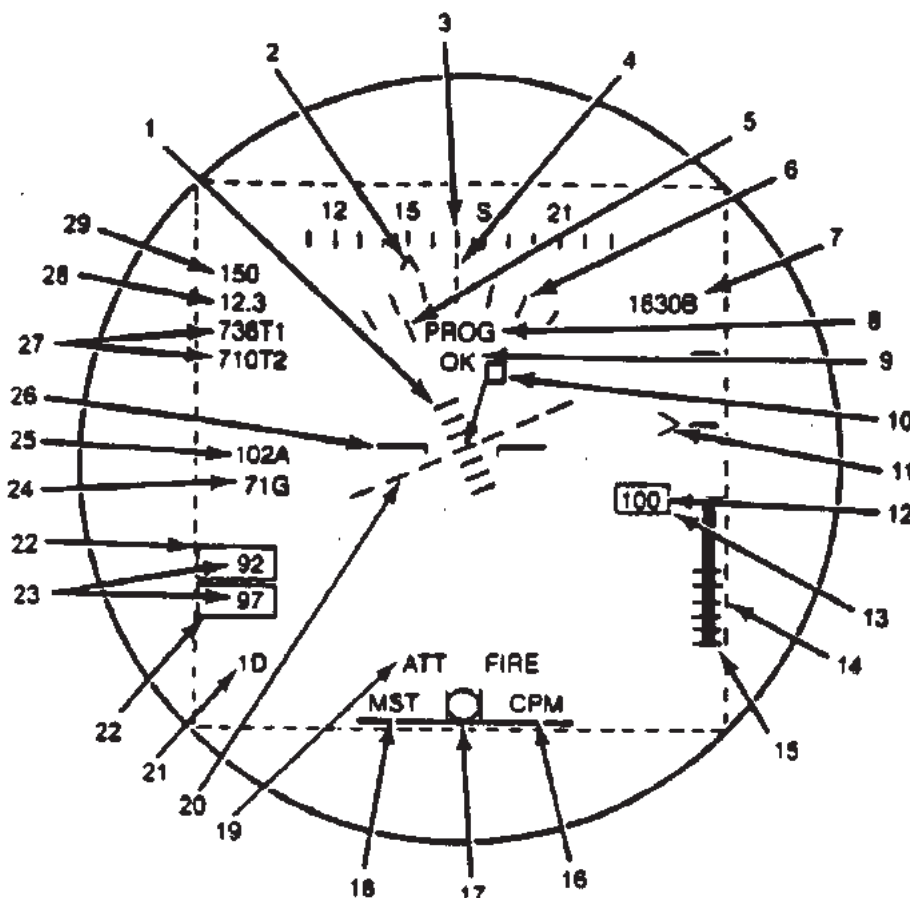

Figure 4-1-9. CH-47D HUD Master Mode Symbology Display (Sheet 1 of 3)
Symbology display modes are programmable by the pilot and copilot via the converter control unit located on the console. Modes are defined by selecting from a master symbology menu (fig. 4-1-9). Up to eight (8) display modes, four normal and four declutter can be programmed for each user and can be selected for display using the display mode selection switch on the pilot or copilot thrust control lever or on the CCU. The default declutter mode has a minimum symbology display of: